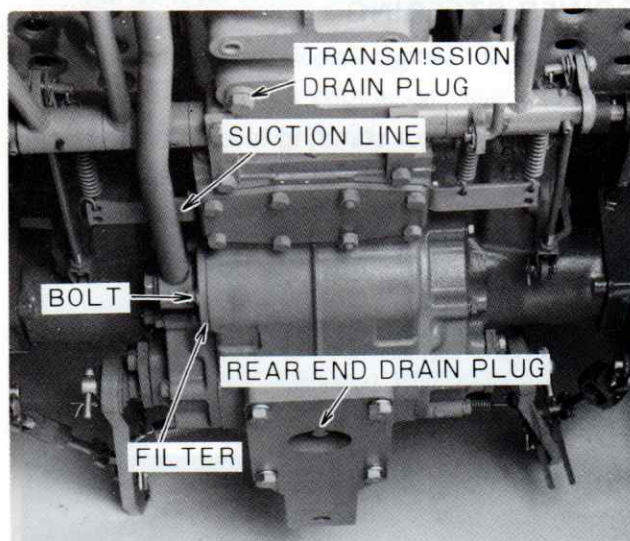

Figure 40 — Transmission, Rear Axle Oil Drain Plugs and Oil Filter
1. With the oil at normal operating temperature, drain the oil by removing the transmission and rear axle drain plugs, Figure 40. Reinstall the plugs after the oil has drained. Discard the oil.
3. Remove the four bolts that secure the filter to the rear axle center housing, Figure 40.